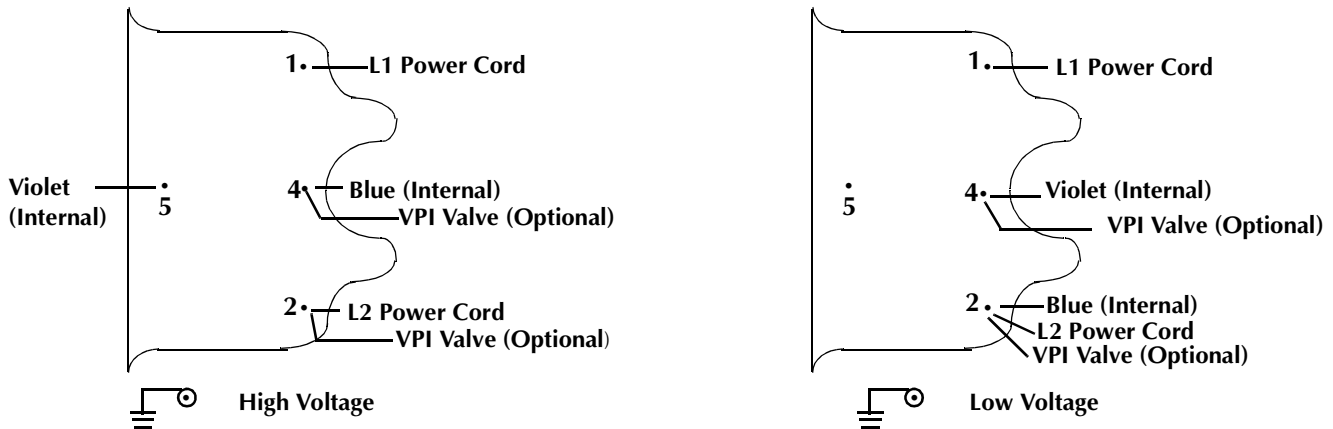
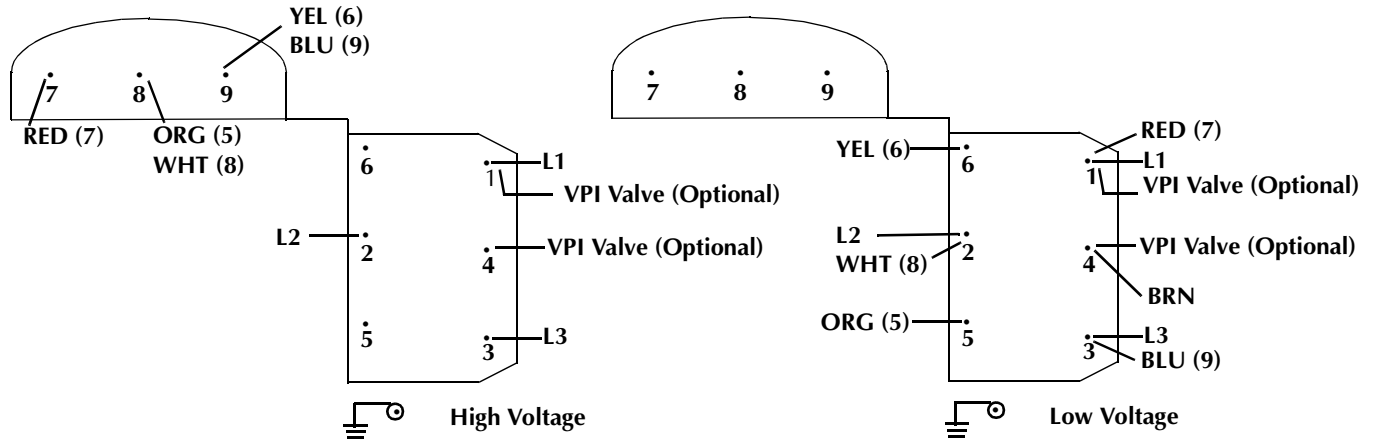

Figure 4 Single Phase Motor Electrical Connections
Figure 5 Three Phase Motor Electrical Connections
The pump can be configured for low voltage, 100 VAC to 115 VAC, or for high voltage, 200 VAC to 230 VAC. Low voltage exists between connection points "4" and "Line 2" whether the pump motor is configured for low or high voltage. Figure 4 shows the electrical connections for a single phase motor.
3. Refer to Figure 4 to connect the motor to match your supply voltage.
4. Wire L1 and L2 per Figure 4 using right angle flag connectors or ring connectors.
The pump can be configured for low voltage, 200 VAC to 230 VAC, or for high voltage, 380 VAC to 415 VAC and 460 VAC. As supplied from the factory, the pump is configured for low voltage. Figure 5 shows the electrical connections for a three phase motor.
3. Refer to Figure 5 to connect the motor to match your supply voltage.
4. L1, L2, and L3 are the power cord leads. Wire L1, L2 and L3 per Figure 5 using right angle flag connectors or ring connectors. Ensure that no exposed wiring is close to the electrical cover or to other terminals on the board.
6. Install the motor electrical cover and secure it with the three (3) screws removed in step 2.
Using the data in Table 19, verify that the VPI Valve chosen is compatible with the TriScroll supply voltage and frequency. Then, locate the proper wiring diagram to use (Figure 4 on page 36 or Figure 5 on page 37).
2. Connect the VPI Valve solenoid wire leads to the pump motor as shown in Figure 4 or Figure 5.